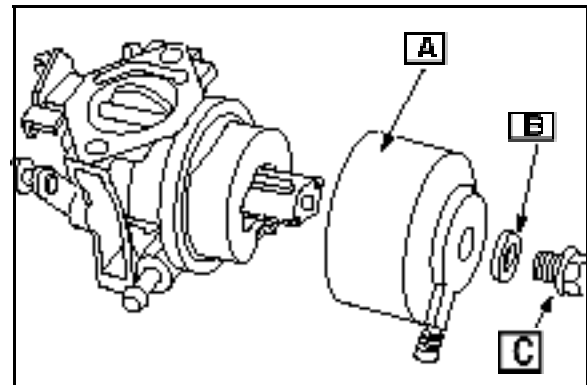

Fig. 51
1. Remove float bowl mounting screw (C), washer (B) and float bowl (A) Fig. 51).